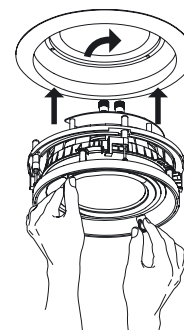

Figure 3. Installing the subwoofer
4. Holding the subwoofer in the palm of your hand, insert it into the frame and twist clockwise using the two molded tabs. This will lock it into the frame. (See **Figure 3**).